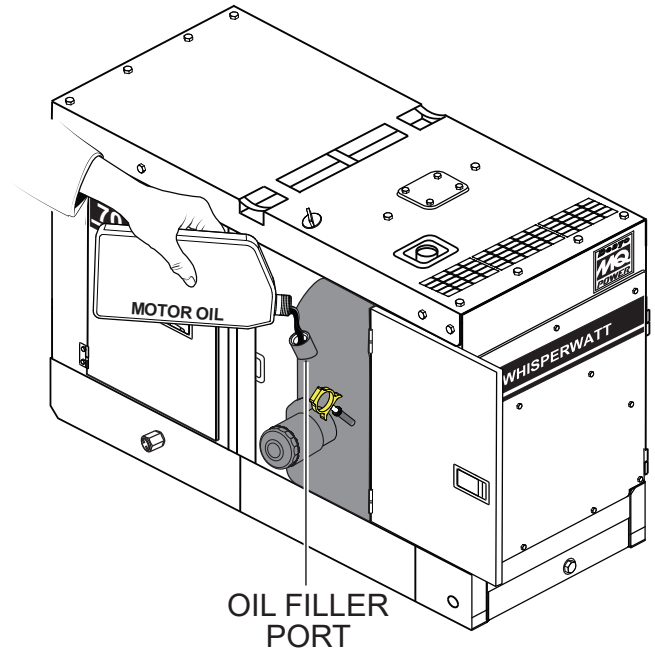

Figure 32. Engine Oil Filler Port
5. If the engine oil level is low (Figure 31C), remove the cap from the oil filler port (Figure 32) and fill to a safe operating level (max) as indicated by the dipstick (Figure 31A). Fill with recommended type oil as listed in Table 11. Maximum oil capacity is 3.88 gallons (14.7 liters).